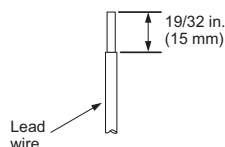

Fig. 3
- Process the end of ground wire (Fig. 3). Connect it to the ground terminal of electrical parts box.
- Process the end of indoor/outdoor unit connecting wire (A) (Fig. 3). Attach it to the terminal block. Be careful not to make mis-wiring. Attach the wire to the terminal block securely so that its core cannot be seen, and no external force affects the connecting section of the terminal block.
- Put the drain cap into the section to which the drain hose is to be attached at the rear of the indoor unit. (Fig. 3)
- When connecting the drain hose to a hard vinyl chloride pipe, be sure to insert it securely into the pipe. (Fig. 3)
- 2) Remove all burrs from the cut section of the pipe, ensuring that precautions are taken to avoid getting metal shavings into the piping. (Fig. 3)